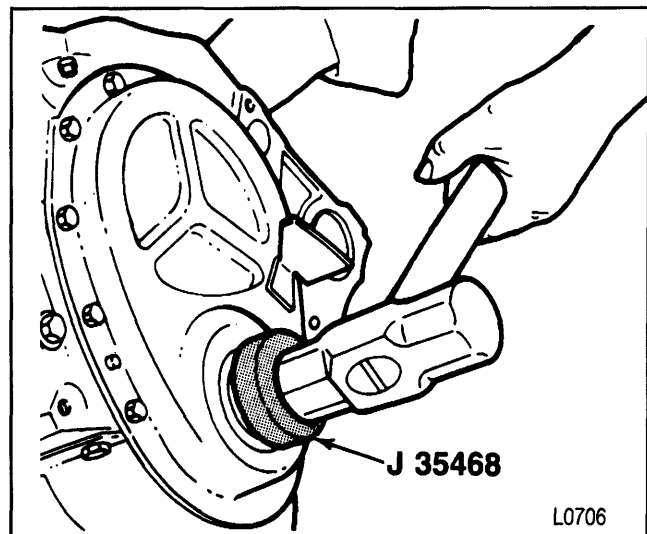

Figure 21—Installing the Crankshaft Front Oil Seal
Install or Connect (Figures 21 and 22)
2. Crankshaft front seal. Use J 35468 (figure 21). The open end of the seal faces inside the engine. Coat the seal lips with engine oil.
Install or Connect (Figure 21)
1. Crankshaft front seal. Use J 35468 (figure 21). The open end of the seal faces inside the engine. Coat the seal lips with engine oil.